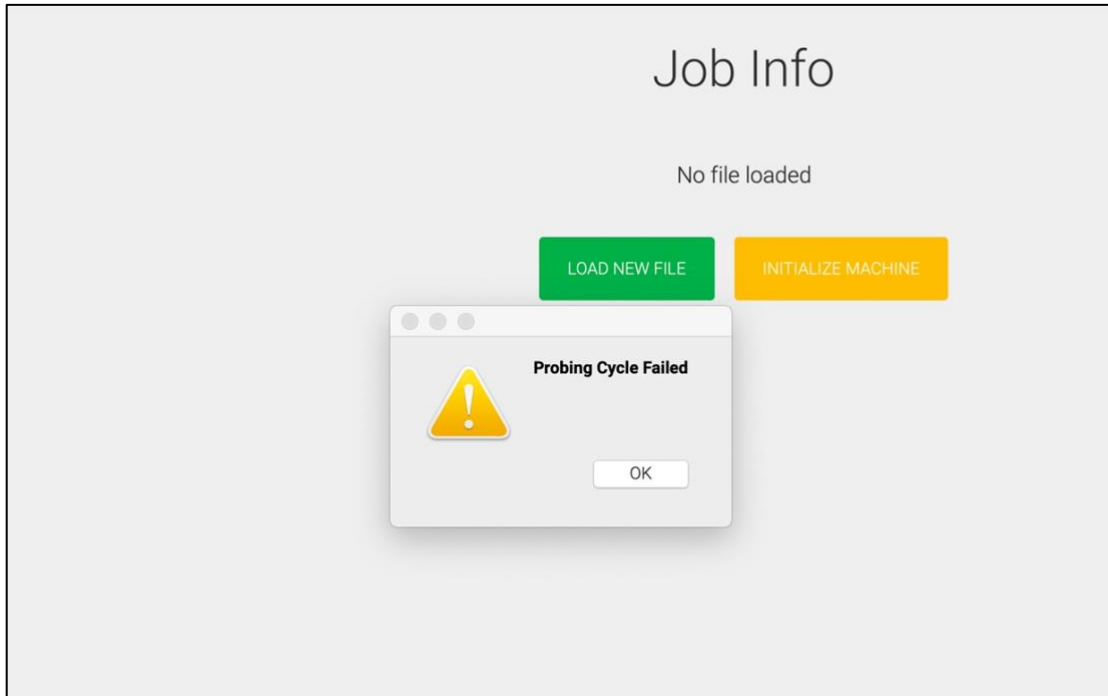

Figure 16
13. If you receive an error message, see **Fig. 16**, repeat steps 1–12 to run a new probing sequence.